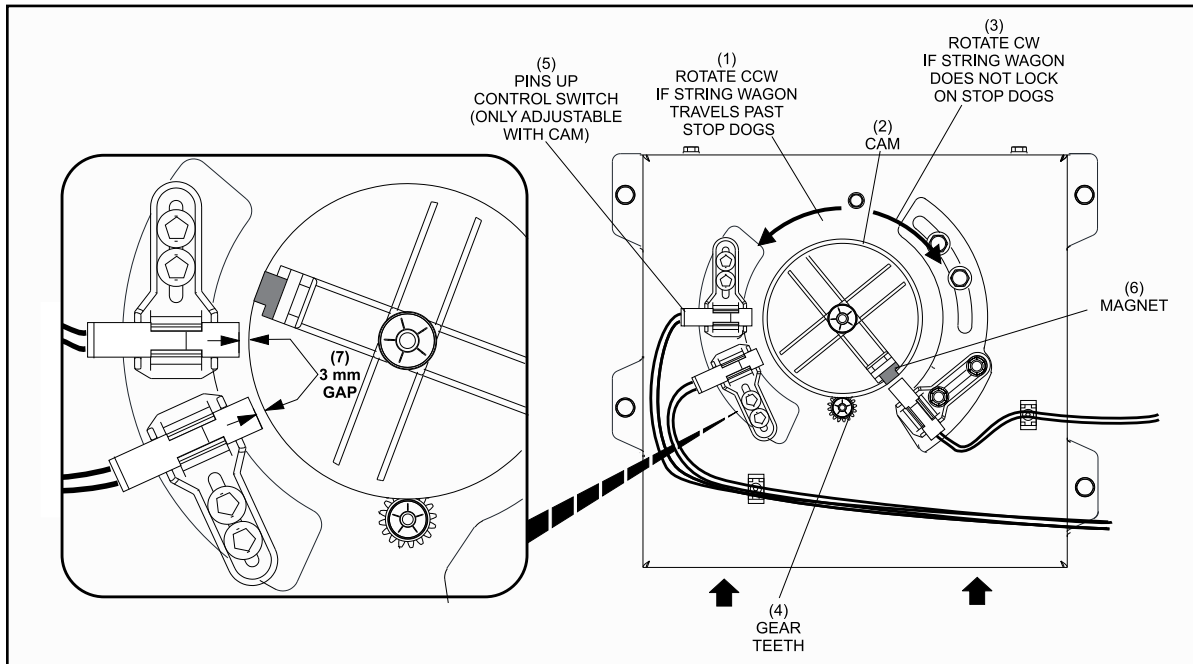

Figure 4-4. Adjust Bracket
(1) CAM CONTROL BOX
(2) CAM
(3) LOOSEN SCREW
- d. Push the Cam Control Box UP to rotate the cam as needed based on the operation observed in step 2. Refer to *Figure 4-4*.
- e. After the cam is adjusted in the proper direction, lower the cam down to align with gear teeth. Refer to *Figure 4-4*. Tighten the four screws loosened in step 3c.